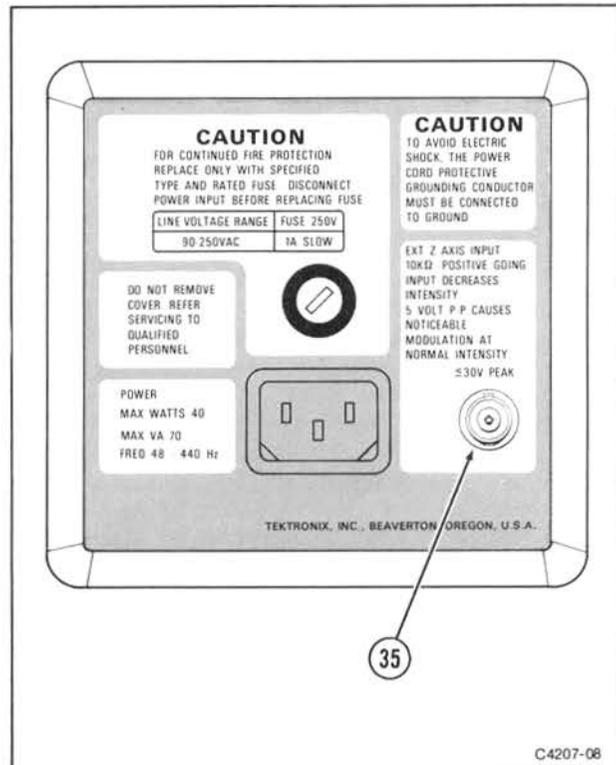

Figure 2-7. Rear-Panel connector.
Refer to Figure 2-7 for location of item 35.